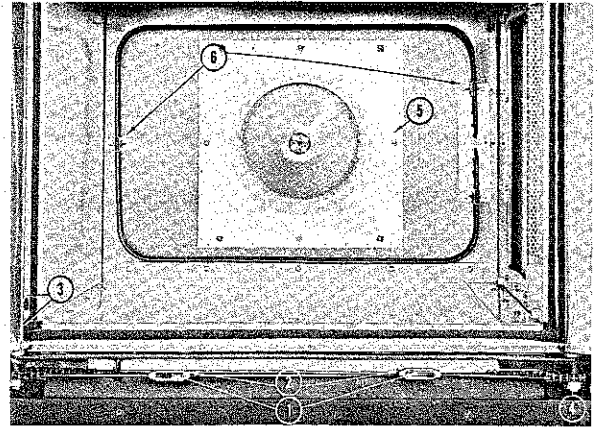

FIG. 5
1. The EF-111 and EZE-1 features side-mounted doors which operate simultaneously. The doors are properly adjusted when the appliance leaves the factory. However, should field adjustment be necessary, two adjustable turnbuckles are located immediately behind the name plate panel, (Figure 5, No. 1). When the doors are in proper adjustment, the door without the handle should be fully closed when the door with the handle has 1/2" to 1" of travel left before being fully closed. Proper adjustment is made by turning first one turnbuckle, then the other, until the doors are adjusted as described above. Turnbuckles should be tight, but not over-tight. CAUTION: If one turnbuckle is adjusted, the other must also be adjusted to prevent undue strain on the door operating mechanism. When the proper adjustment has been made, be sure to tighten the turnbuckle lock nuts, (Figure 5, No. 2). To preclude excess play in the doors, be sure to tighten the two lower hinge pin bolts located on the inside lower edge of each door, (Figure 5, No. 3). **TO ADJUST THE BALL PLUNGER CATCH, REFER TO INSIDE BACK COVER.**
2. Mark and remove the door operating mechanism, (Figure 5, No. 4). It is suggested that the chain and sprockets be marked by prick punching, scribing, or a dab of paint, to facilitate the reinstallation of chain and sprockets in their proper position.
3. Remove the eight nuts from the motor mount panel (Figure 5, No. 5).
7. Remove the eight screws holding the element assembly to rear wall of the oven. (Figure 5, No. 6)